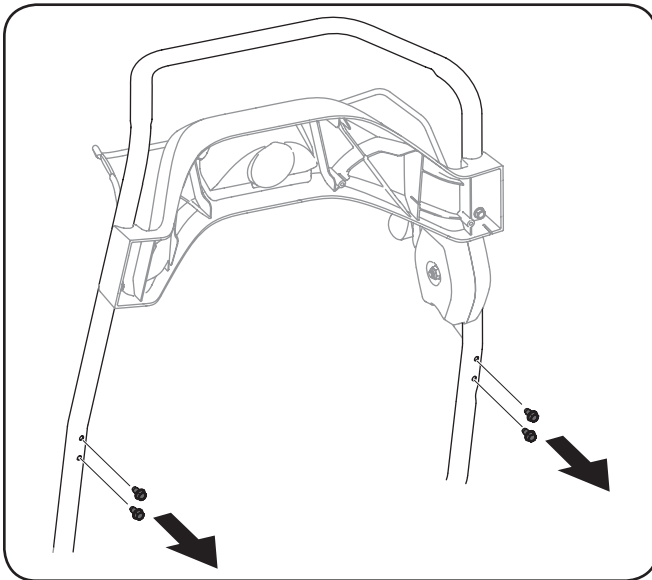

Figure 3-7
1. Remove the four hex washer screws from the back of the handle (two on each side). See Figure 3-7.